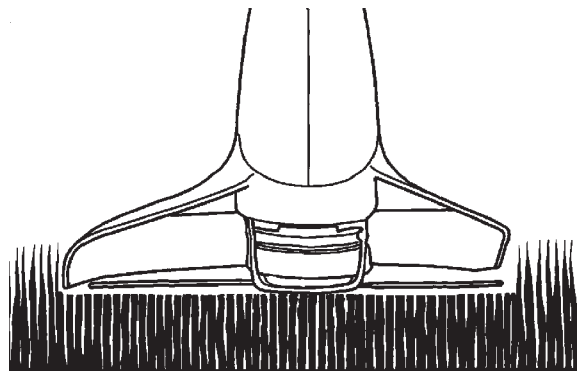

Fig. 12
1. **TRIMMING / MOWING** (Fig. 12). Swing trimmer with a sickle-like motion from side to side. Do not tilt the stringhead during the procedure. Test area to be trimmed for proper cutting height. Keep stringhead at same level for even depth of cut.